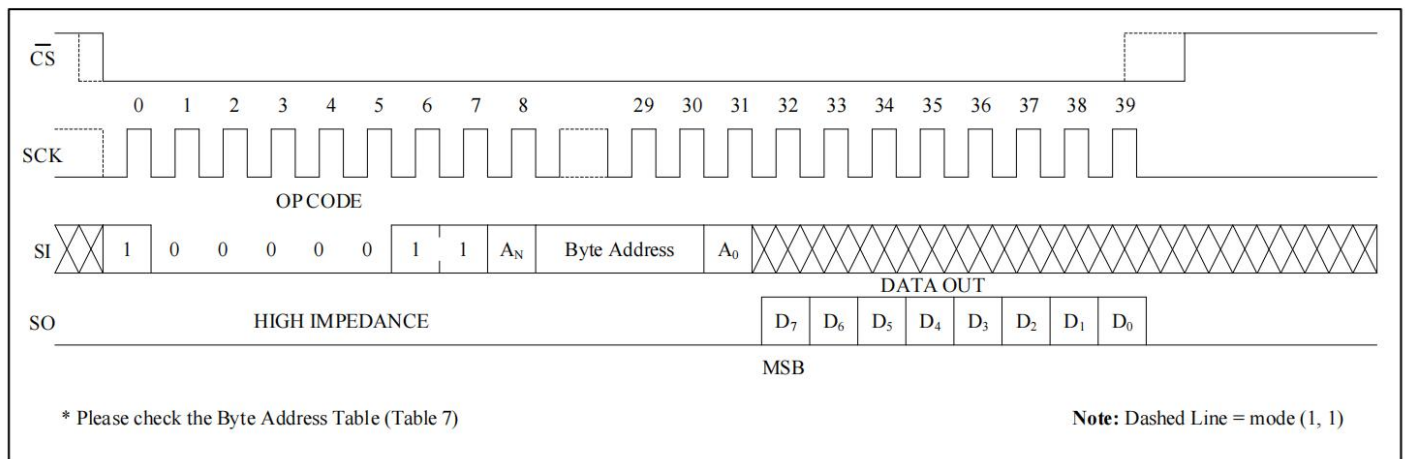

Figure 11
**Read Identification Page:** Reading the additional 256-byte Identification Page (IP) is achieved using the RDID instruction, according to timing shown in Figure 11. Address bit A10 must be 0, upper address bits are Don't Care, the lower address bits [A7:A0] address bits define the byte address inside the identification page. The byte address must not exceed the 256-byte page boundary.
**Read Identification Page Lock Status:** To read Identification Page Lock status, the host simply sends a RDLS command, according to timing shown in Figure 11. The address bit A10 must be 1, all other address bits are Don't Care. The Lock bit is the bit0 of the byte read on the SO pin. It is at "1" when the lock is active and at "0" when the lock is not active. The same data byte may be read at any time, including during an internal write cycle.